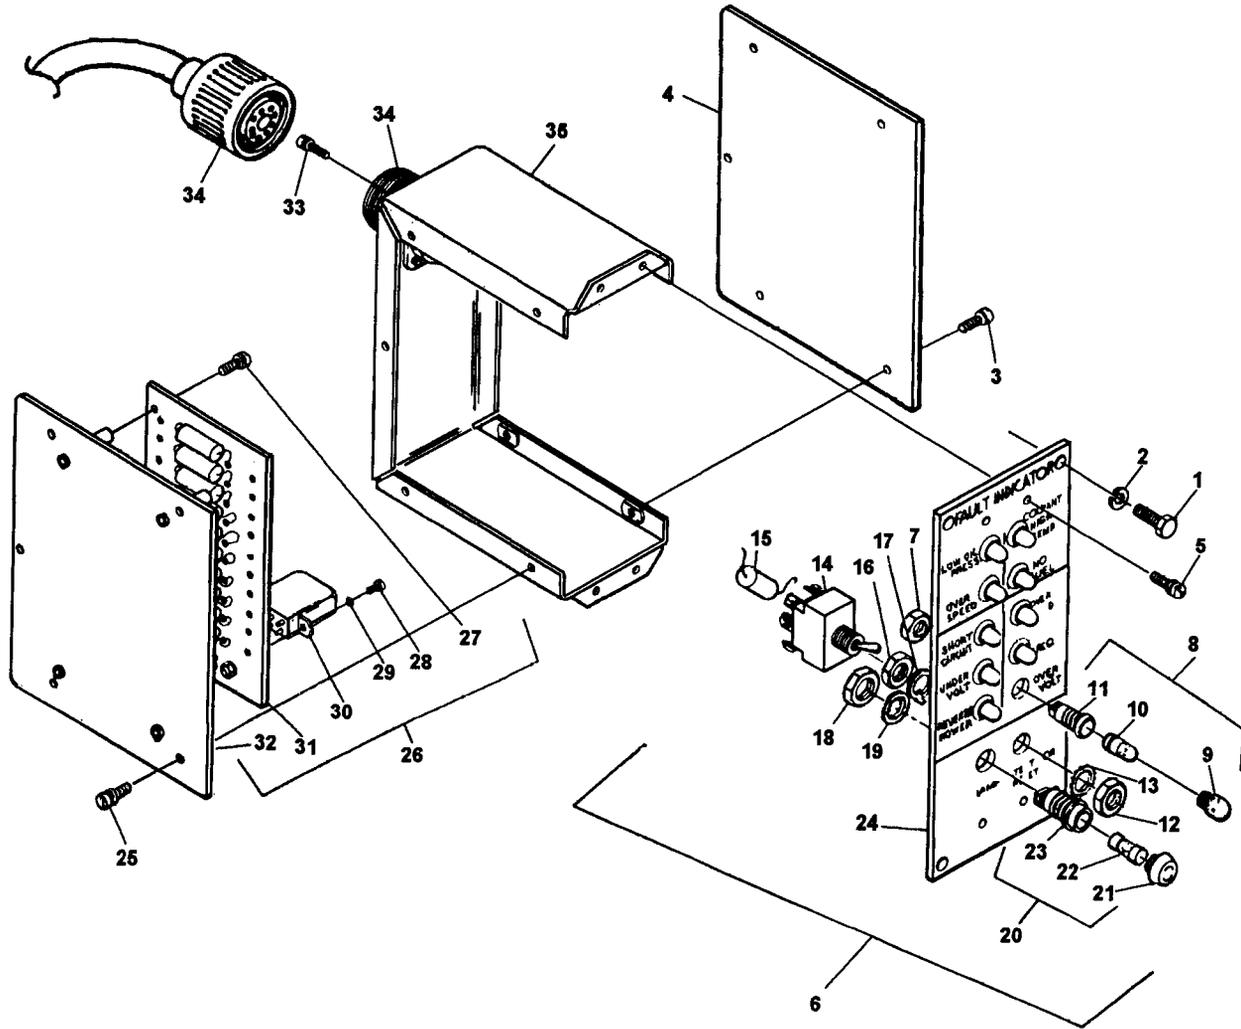

Figure 4-41. Fault Locating Indicator, Exploded View (Sheet 1 of 2)
- (1) Install fault locating indicator to generator set with lockwashers (2, Figure 4-41) and screws (1).
- (2) Connect wiring harness to back of fault locating indicator.